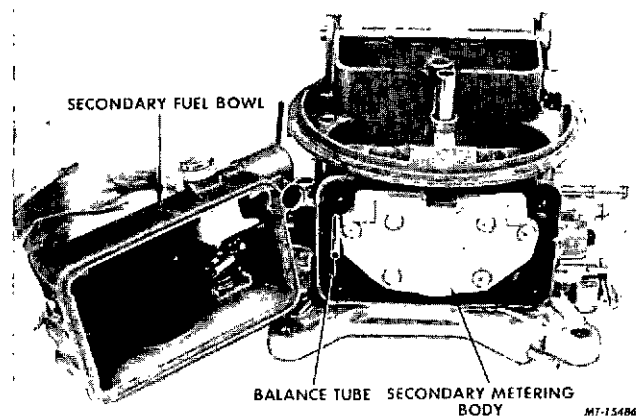

FIG. 36 Removal or Installation of Secondary Fuel Bowl (Model 4160)
14. Remove secondary fuel bowl from carburetor body (Figure 36). **NOTE:** Disassembly of the secondary fuel bowl is similar to the primary bowl. The fuel inlet baffles are not interchangeable.